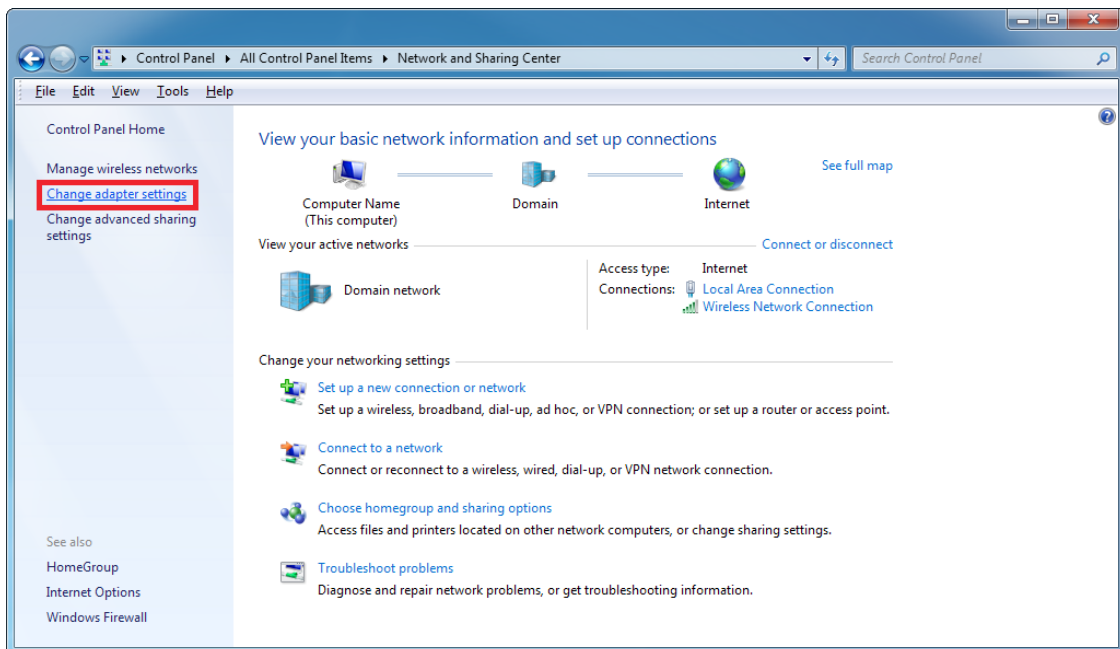

Figure 11 – Network and Sharing Center Change adapter settings link
3. In the left pane of the Network and Sharing Center, click on the *Change adapter settings* link (shown in Figure 11 below).